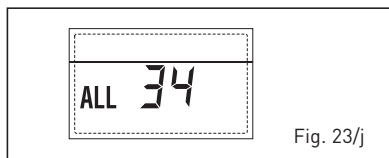

Fig. 23/j
– **RS-485 AND RS-485 COMMUNICATION ERROR “ALL 35” (fig. 23/x)**